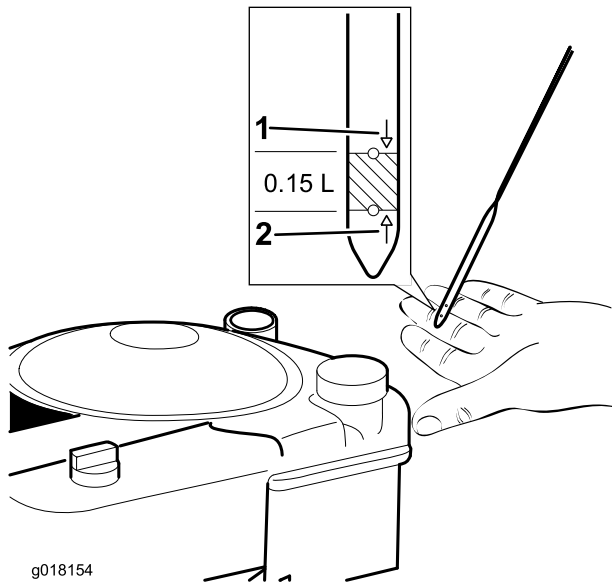

Figure 6
1. Remove the dipstick (Figure 6).
2. **Slowly** pour oil into the oil-fill tube, wait 3 minutes, and check the oil level on the dipstick by wiping the dipstick clean and then fully inserting the dipstick into the tube (Figure 6).
3. Fill the engine with oil until the engine-oil level is correct on the dipstick, as shown in Figure 6.